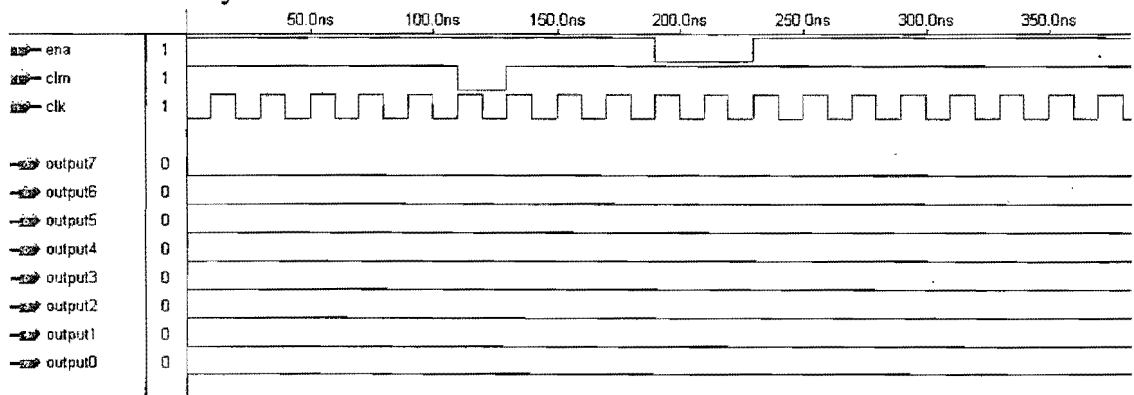

Figure 1.b.2
- b. Sketch the output of the 8-bit counter in Question 1.a. according to given input signals. Refer to Figure 1.b.2. Assume that the system is ideal and there is no time delay.